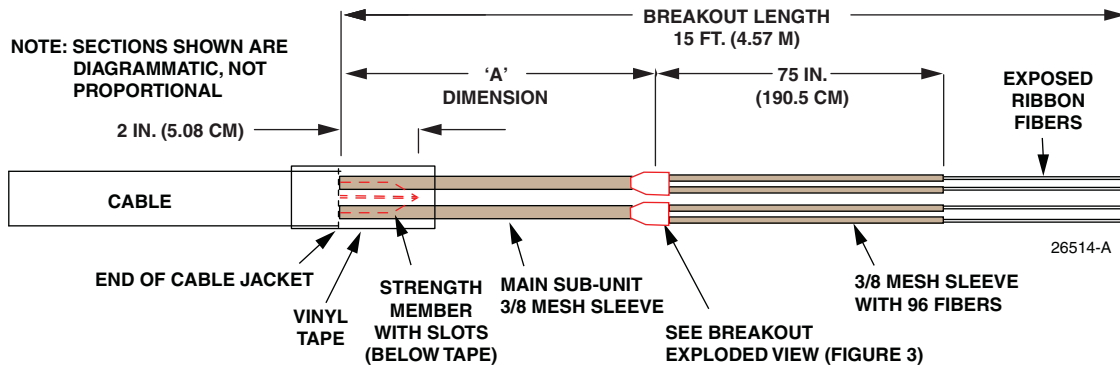

Figure 6. Slotted Core Ribbon Cable Breakout
- a. **Slotted Core Cable:** Refer to Figure 6 and Table 4.